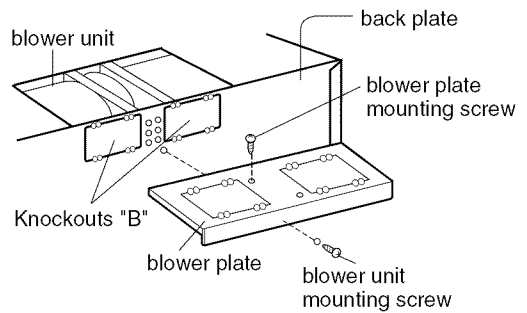

Figure 12
1. Remove one blower unit mounting screw and one blower plate screw. Remove the blower plate from cabinet. See **Figure 12**.